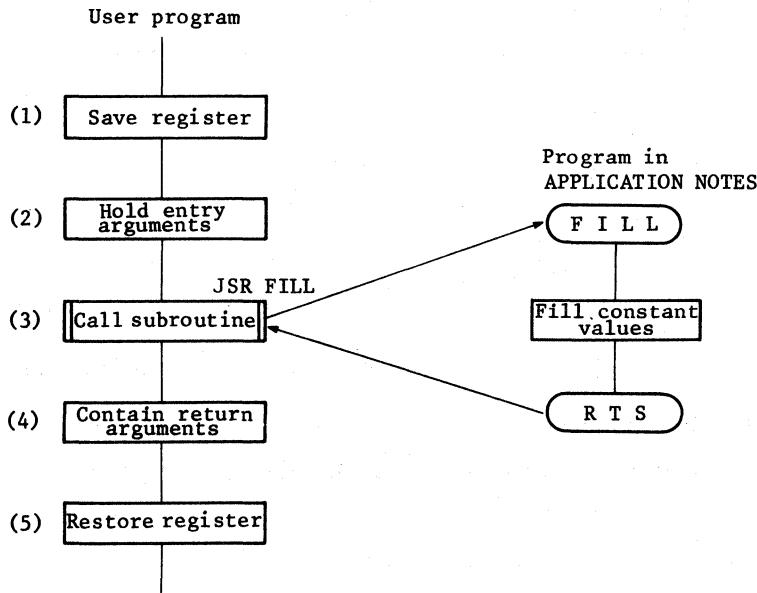

Fig. 1.6 Relation between User Program and Program in APPLICATION NOTES
Relation between the programs in APPLICATION NOTES and user program is shown in Fig. 1.6. All programs in APPLICATION NOTES are formed as subroutine, they should be proceeded as shown in Fig. 1.6 and (1) to (5) on the next page.